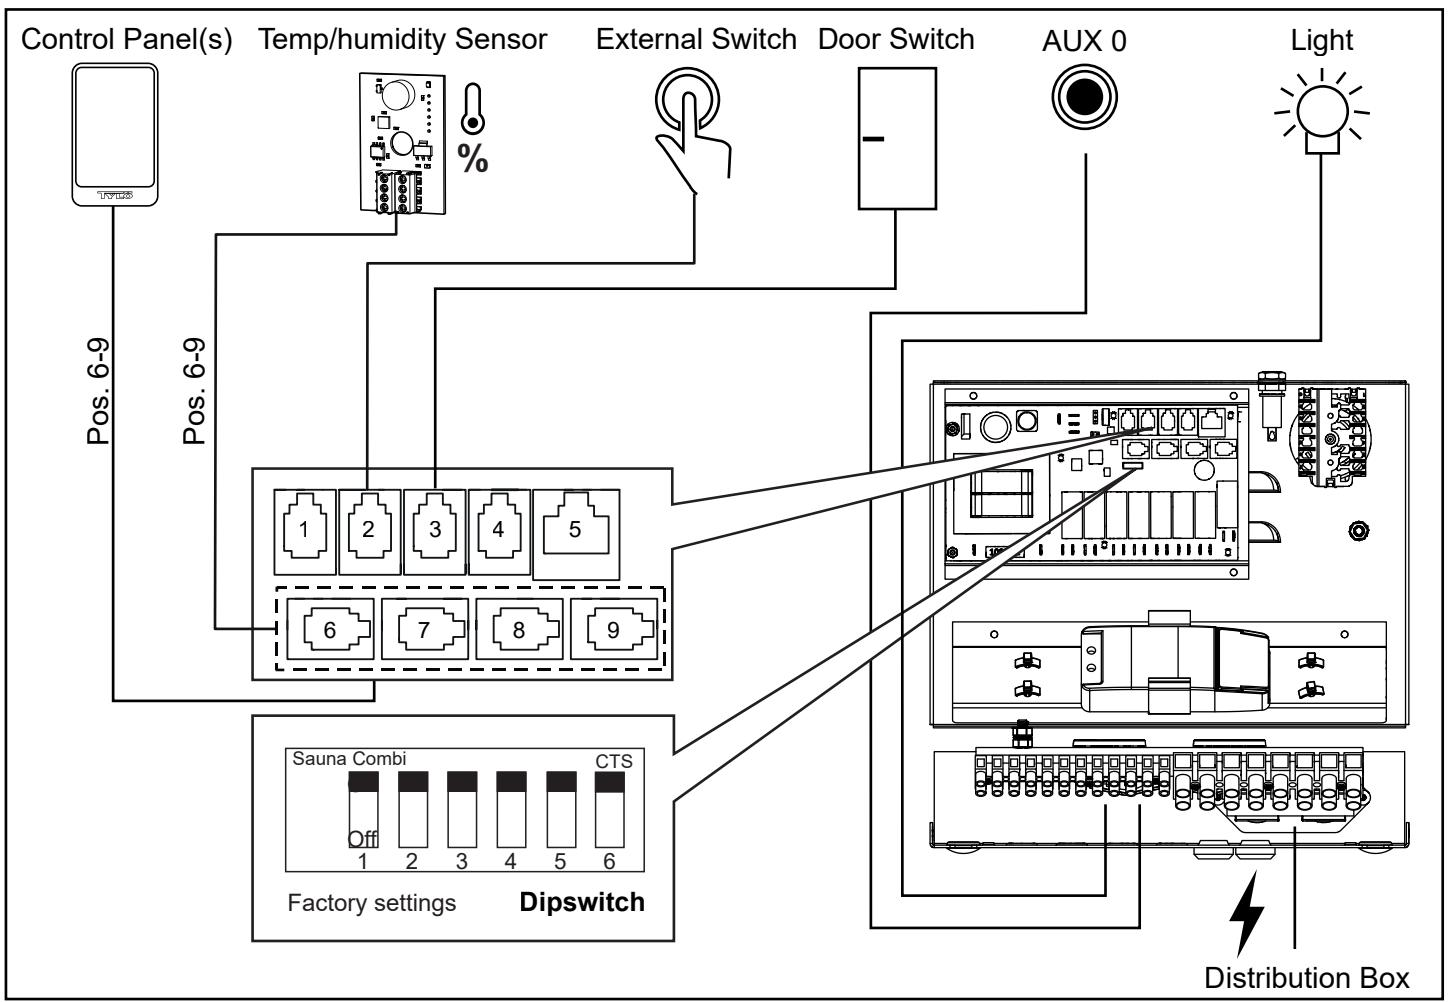

Figure 20. Schematic diagram of installation Crown Combi Elite
6. Run the cables for the control panel and the temperature sensor through the cable grommets (see Figure 11). Connect the control panel cable to one of the four RS485 contacts (positions 6-9) (see Figure 20).
7. Connect the humidity- and temperature sensor cable (positions 6-9)(see Figure 20). Pull out the drawer to stretch the cables and tighten the strain relieves (see Figure 12).